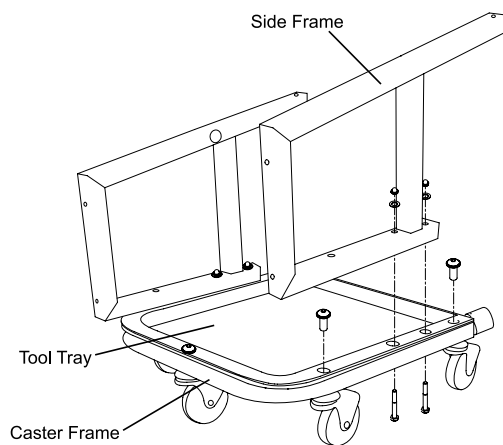

Figure 2 - Assembling tool tray and casters
2. Assemble Tool Tray and five Casters to Caster Frame using Allen Head binding barrels. Then attach two Creeper Side Frames to Caster Frame with two M8 x 60 Hex Head Bolts, two Washers and two Acorn Nuts each as shown in Figure 2.